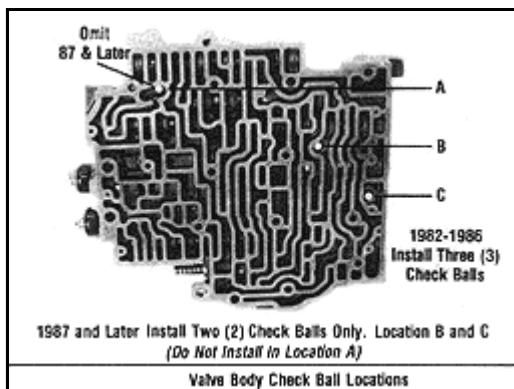
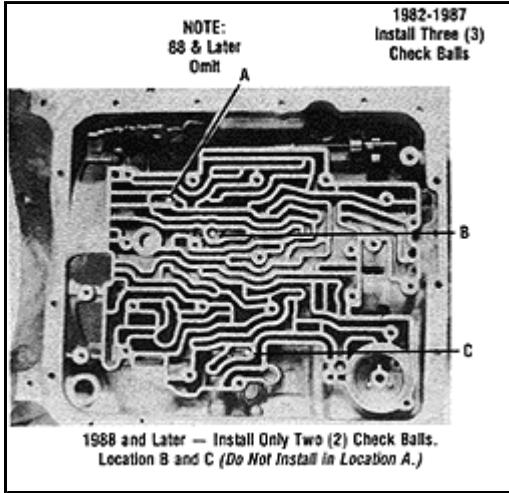

Figure 7
Figure 8
STEP 7 CHECK BALL LOCATIONS: All applications: VALVE BODY: Install check balls in the valve body as indicated (**See Figure 7**) **CASE:** Install three (3) check balls in the case as shown (**See Figure 8**). Use grease to hold check balls in place. **1988 AND LATER:** Install two (2) check balls in the case as shown (**See Figure 8**). Use grease to hold check balls in place.